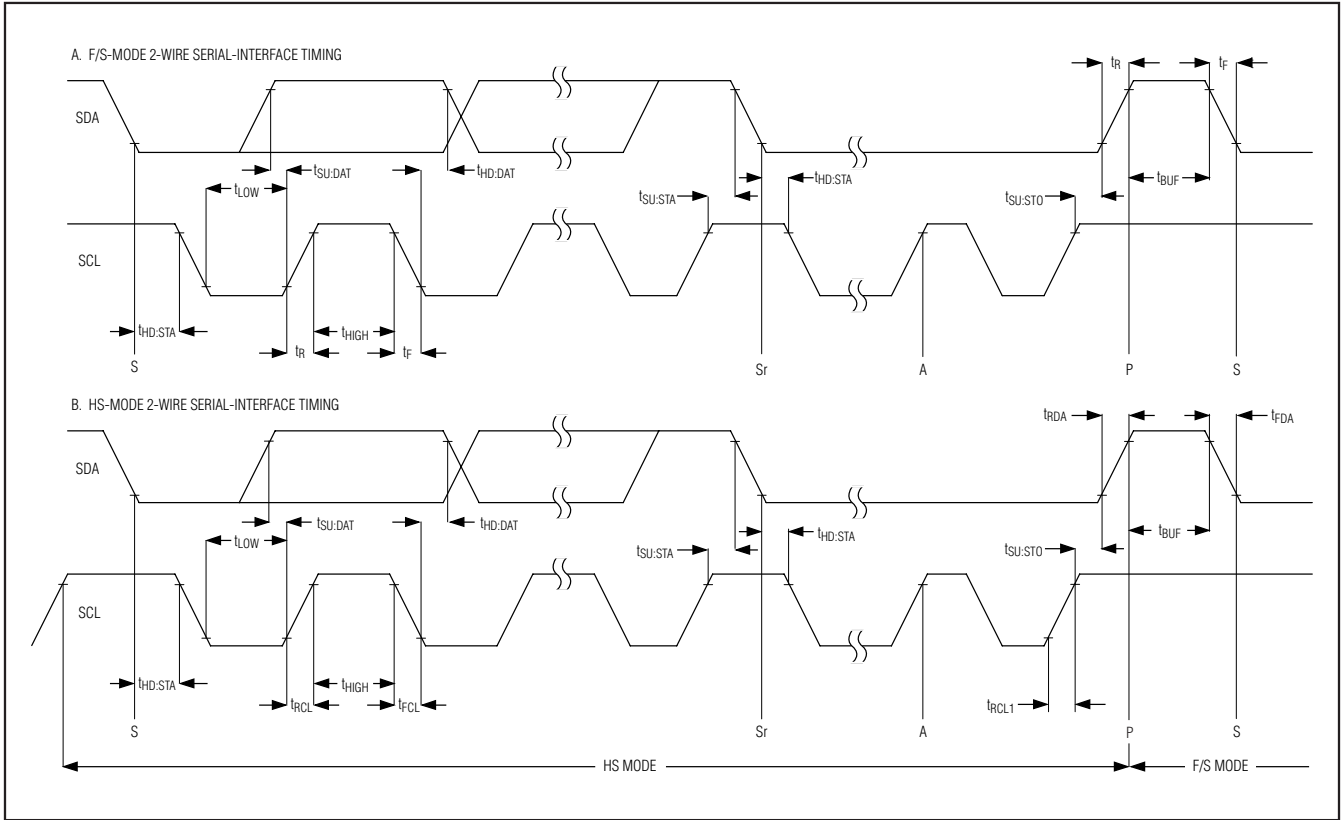

Figure 1. 2-Wire Serial-Interface Timing
TIMING CHARACTERISTICS (Figure 1)
TIMING CHARACTERISTICS (Figure 1) (continued)
- Note 11:** A master device must provide a data hold time for SDA (referred to V_{IL} of SCL) to bridge the undefined region of SCL's falling edge (see Figure 1).
high-speed mode (HS mode) to achieve conversion rates up to 94.4ksps. Figure 1 shows the bus timing for the MAX11646/MAX11647's 2-wire interface.